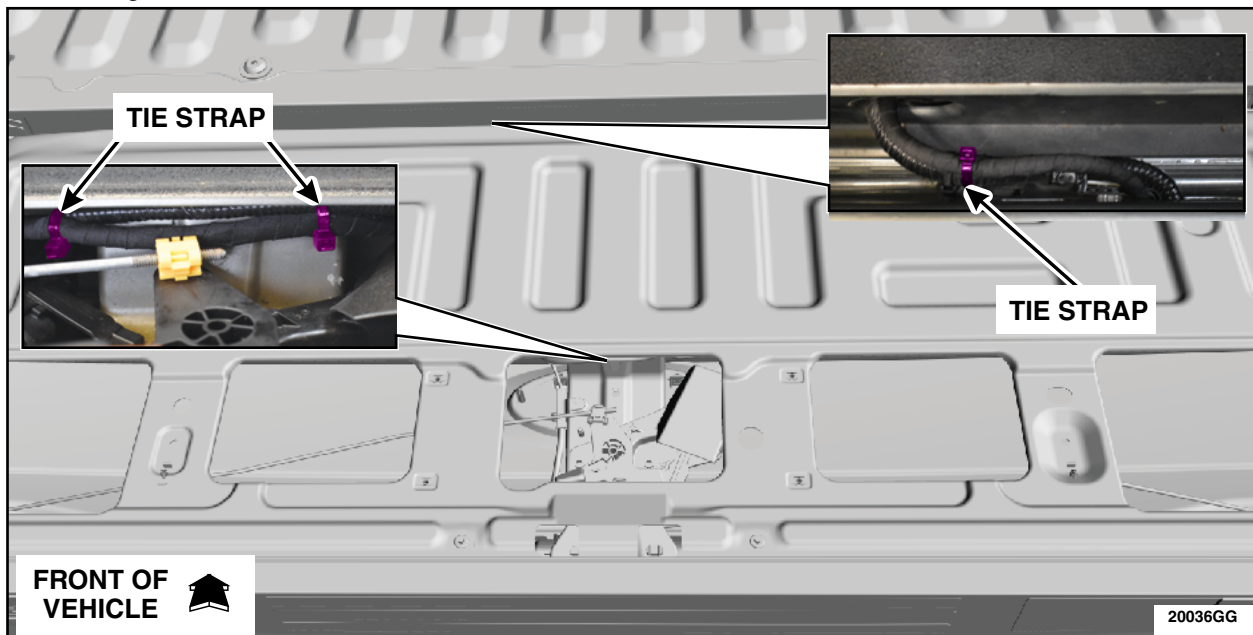

FIGURE 61
81. Secure the Tailgate Jumper Harness using tie straps and trim any tie strap excess length. See Figure 61.